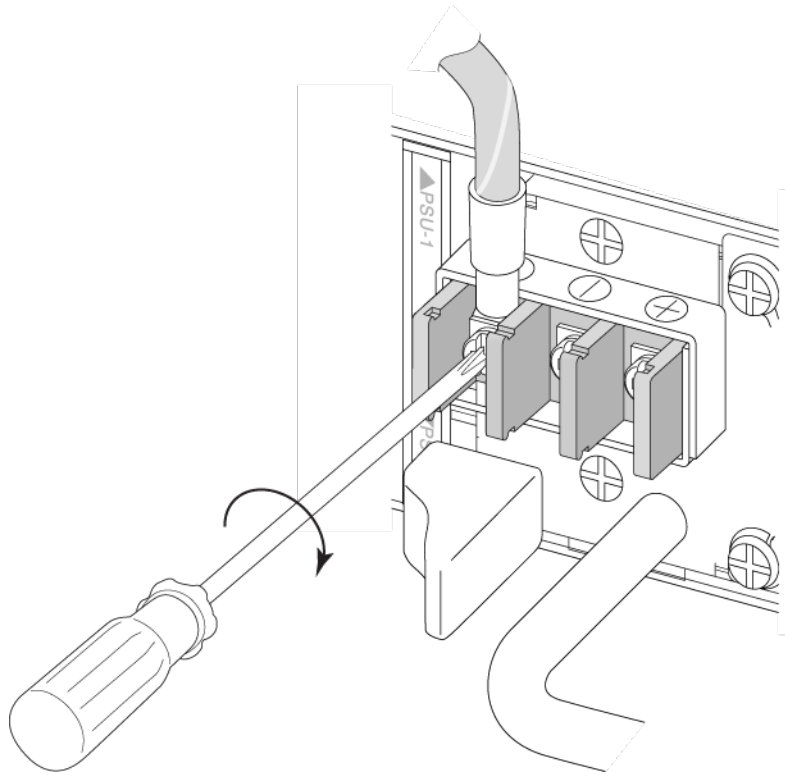

Figure 231: Securing the Ground Wire
- a Loosen the screw enough to allow the spade terminal to slide underneath the captive square washer (see Figure 231).